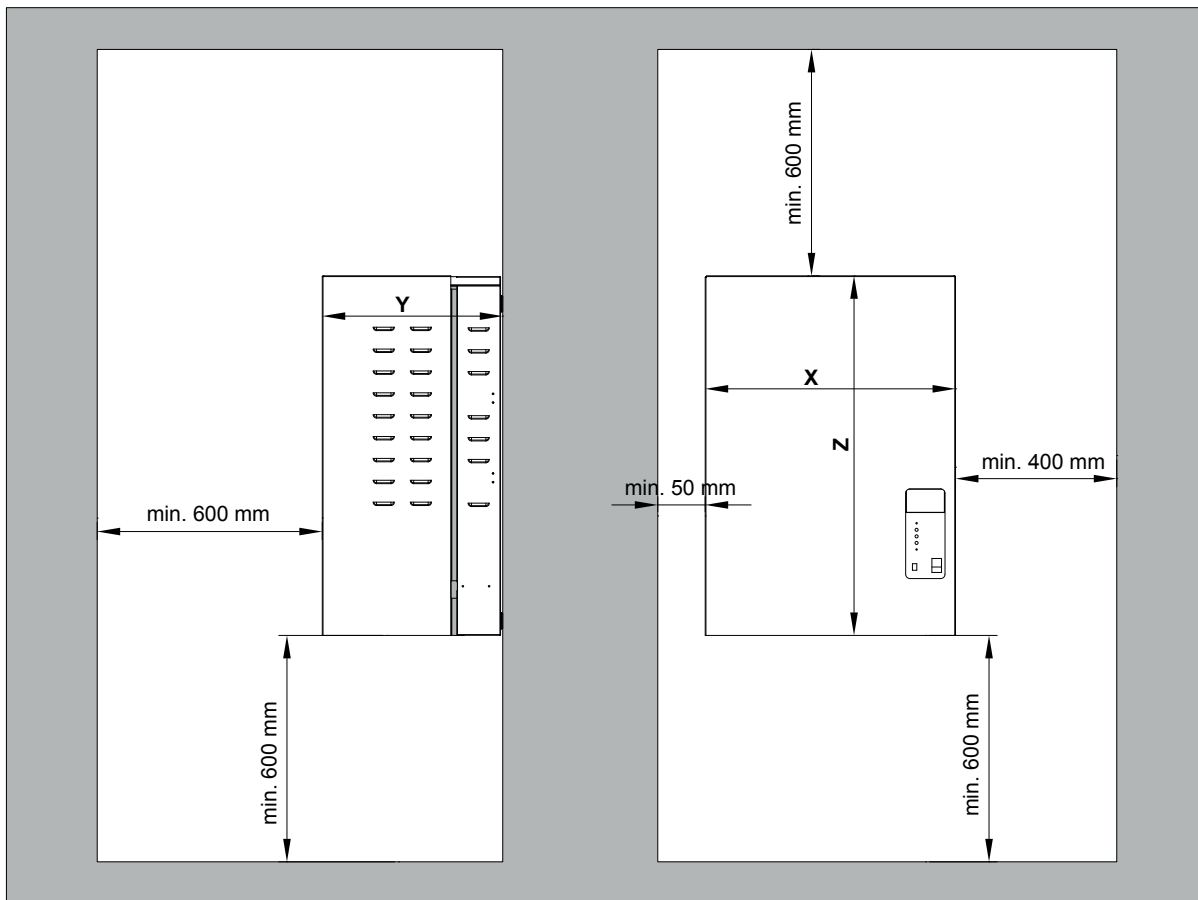

Fig. 1: Distances to be observed
- Install the Condair RC in such a manner that it is **freely accessible** with sufficient space available for maintenance purposes. The **minimum distances** shown in Fig. 1 **must be maintained**.